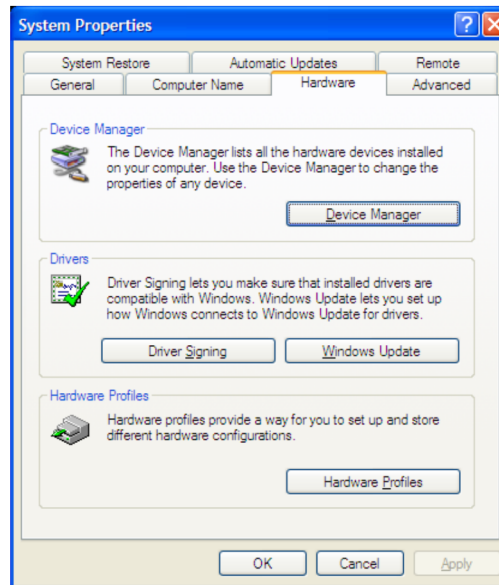

Figure 12. System Properties Window
2. Select the Hardware tab in the System Properties Window (see Figure 12), then Click on the Device Manager to go to the Device Manager window.